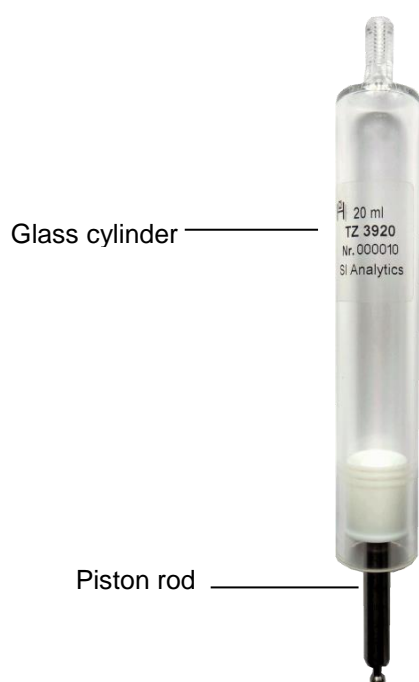

Fig. 32
5. Insert a new glass cylinder and piston (Fig. 32) into the interchangeable unit.